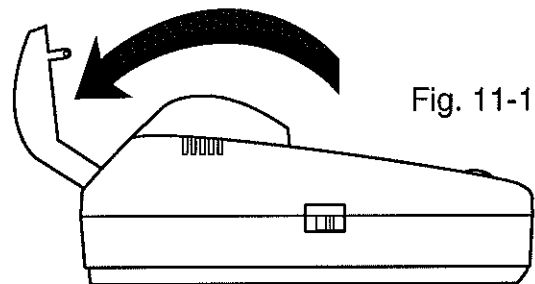

Fig. 11-1
(1) Installing printer paper
a) Open the printer paper cover as illustrated in Fig. 11-1.